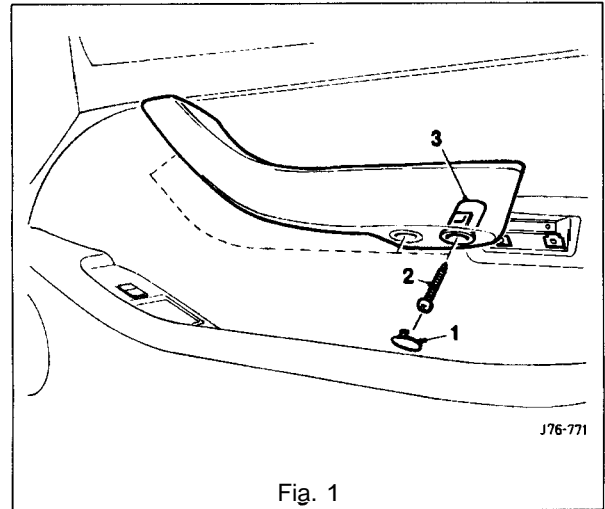

Fig. 1
- From inside the door pocket, release the puddle lamp (1 Fig. 1) securing quarter turn fastener.
- Carefully displace the trim pad (2 Fig. 1) from the door retaining clips.
- Displace trim pad from the upper retaining tang (3 Fig. 1).
- Displace the trim panel (2 Fig. 1) from door retaining clips.
- Displace and remove the armrest securing screw hole plastic finisher covers (1 Fig. 1).
- Undo and remove the armrest securing screws (2 Fig. 1) and remove the armrest assembly.
- Remove the armrest screw hole plastic finishers (3 Fig. 1).